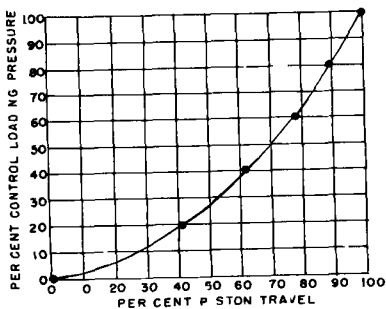

FIGURE 14 Cam Characteristics
3. From steps 1 and 2 above, determine the exact control loading pressure vs. piston position characteristic (see Figure 14).